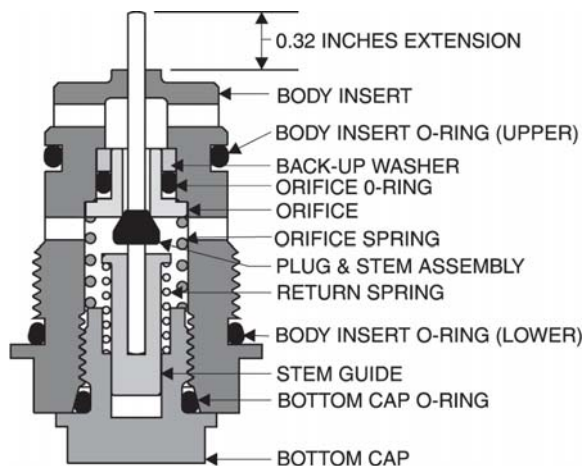

Figure 8 - The Body Insert assembly drawing, PRV mode.
3. **Control Action:** Inspect to make sure the Body Insert Assembly (Cartridge) is in pressure reducing mode. The Series 20L pilot utilizes the same reversible Body Insert Assembly as the Series 20 / 20S / 20H / 20 HS Pilots. The Series 20L Pilot MAY NOT be used in the Back Pressure (BPV/Relief) mode to control the FLOWGRID™ VALVE because the maximum Series 20L Pilot set point range is below the minimum differential required to open the FLOWGRID™ VALVE. Remove the Body Insert Assembly and measure the stem extension as shown below to confirm the pilot is in pressure reducing mode. If incorrect, follow the Body Insert Assembly disassembly and assembly instructions in the MAINTENANCE section of this manual (refer to Figure 8 and/or Page 17).